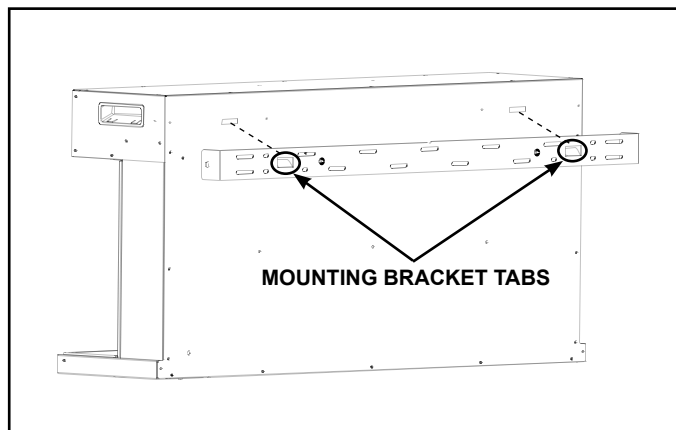

Figure 4.8 Attaching Appliance to Bracket
3. Hang the appliance and pull down to ensure the tabs are fully engaged. See Figure 4.8.
3. Hang the appliance and pull down to ensure the hooks are fully engaged. See Figure 4.8.
4. Secure the bracket to the sides of the appliance using the two (2) ST4x6 screws retained when removing the bracket from the appliance.